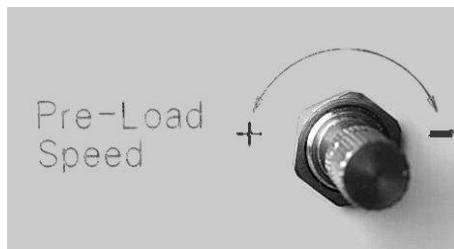

Fig. 10.02
2. Let go of the left foot pedal and the die closes on to the terminal. The pre-crimp speed can be adjusted with the throttle marked “**Pre-Load Speed**” (Fig.10.02).